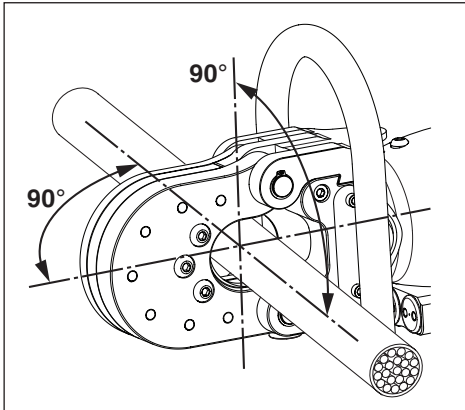

Figure 9, Positioning Material in the Cutting Head
Position the material to be cut between the cutter blades, so that it is perpendicular to the piston axis, as shown in Figure 9. This will provide the best quality cut while placing the least amount of load on the cutter.
4. Place the material to be cut between the fixed and moving blades. Be sure that it is perpendicular to the piston axis, as shown in Figure 9. Refer to instructions in Section 9.5 for additional information.